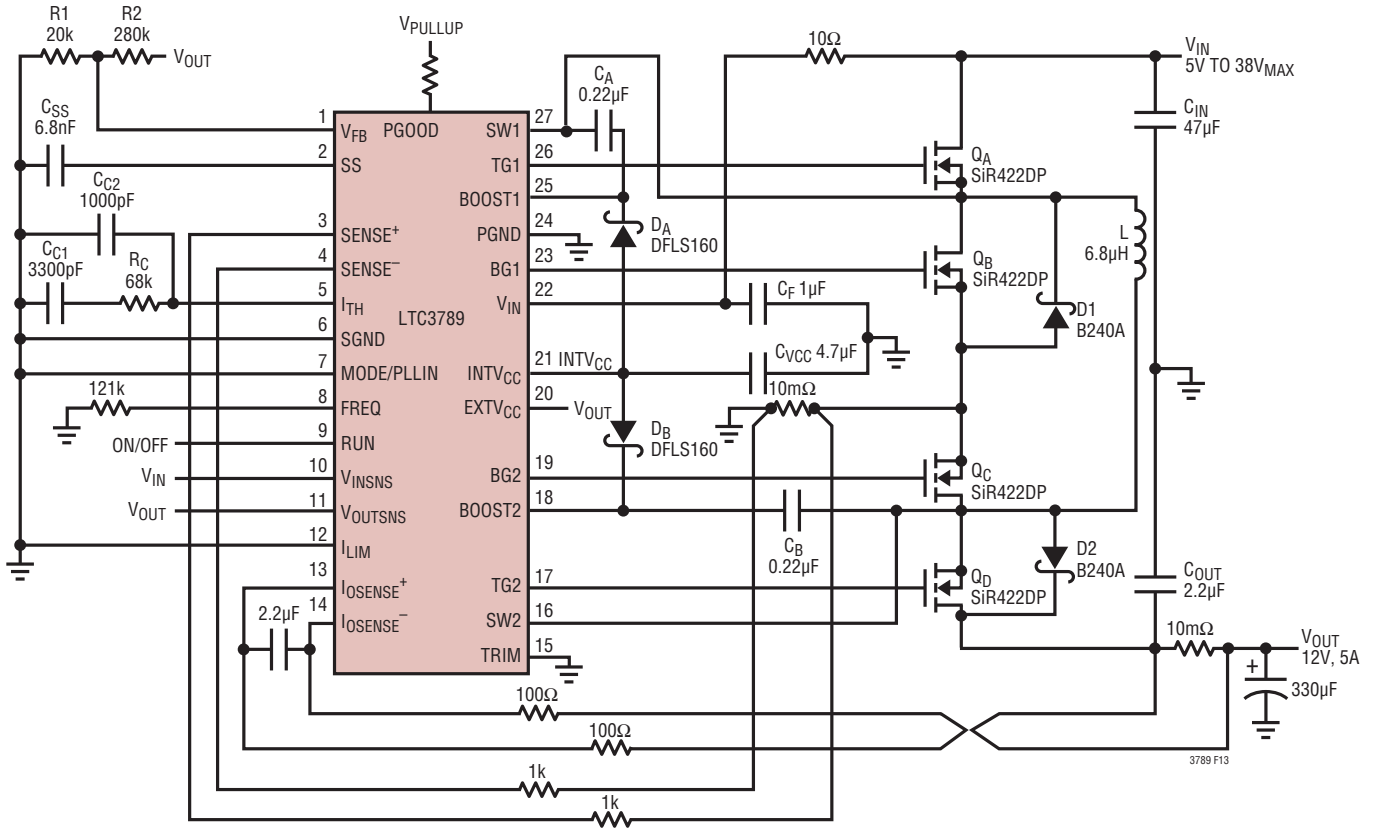

Figure 13. LTC3789 12V/5A, Buck-Boost Regulator
where R1 and R2 are defined in Figure 13.
Referring to Figure 13, the external bootstrap capacitors C_A and C_B connected to the BOOST1 and BOOST2 pins supply the gate drive voltage for the topside MOSFET switches A and D. When the top switch A turns on, the switch node SW1 rises to V_{IN} and the BOOST1 pin rises to approximately $V_{IN} + INTV_{CC}$. When the bottom switch B turns on, the switch node SW1 drops to low and the boost capacitor C_A is charged through D_A from $INTV_{CC}$. When the top switch D turns on, the switch node SW2 rises to V_{OUT} and the BOOST2 pin rises to approximately $V_{OUT} + INTV_{CC}$. When the bottom switch C turns on, the switch node SW2 drops to low and the boost capacitor C_B is charged through D_B from $INTV_{CC}$. The boost capacitors C_A and C_B need to store about 100 times the gate charge required by the top switches A and D. In most applications, a $0.1\mu\text{F}$ to $0.47\mu\text{F}$, X5R or X7R dielectric capacitor is adequate.
- Flood all unused areas on all layers with copper. Flooding with copper will reduce the temperature rise of power components. Connect the copper areas to any DC net (V_{IN} or GND). When laying out the printed circuit board, the following checklist should be used to ensure proper operation of the LTC3789. These items are also illustrated in Figure 13.